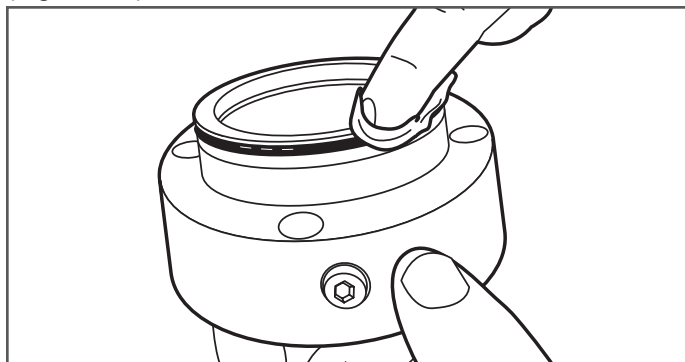

Figure 9-9
9. Reinstall outer O-ring. Apply an ample amount of clean bearing grease or lithium grease to outer O-ring (Figure 9-9).